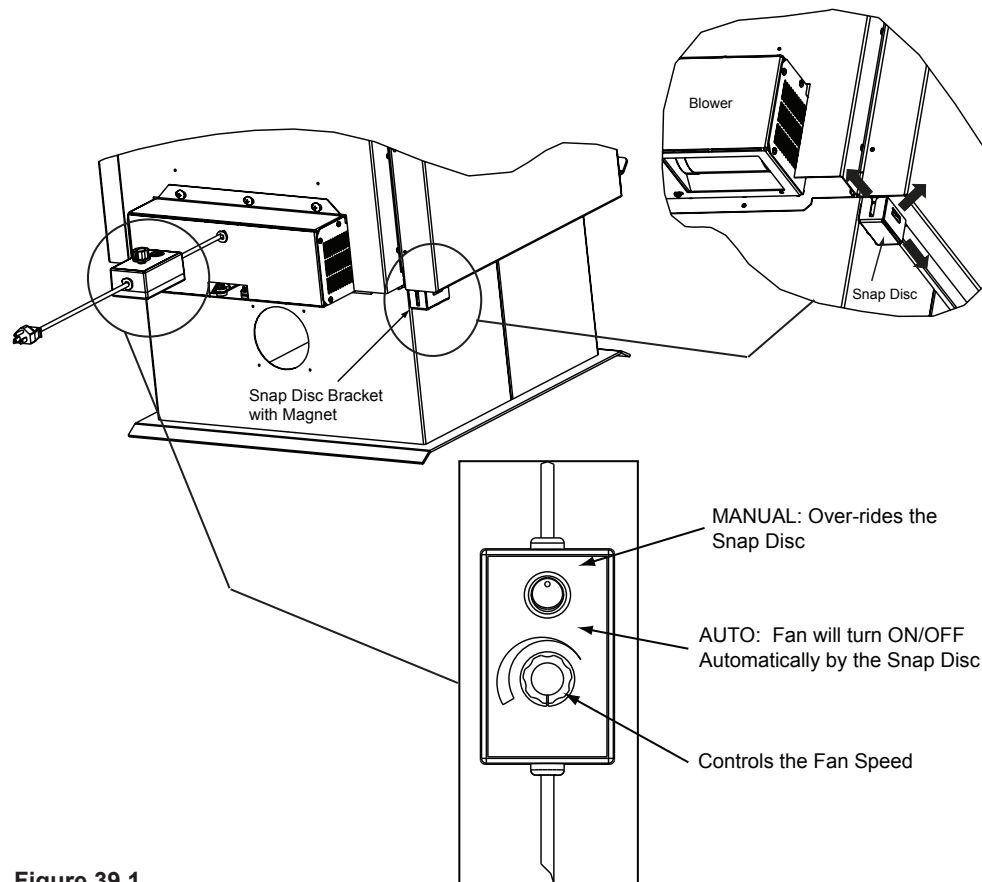

Figure 39.1
1. Align holes in mounting flange of blower with bolt holes in appliance. Blower should be positioned at bottom of rear outer skin as shown in **Figure 39.1**.